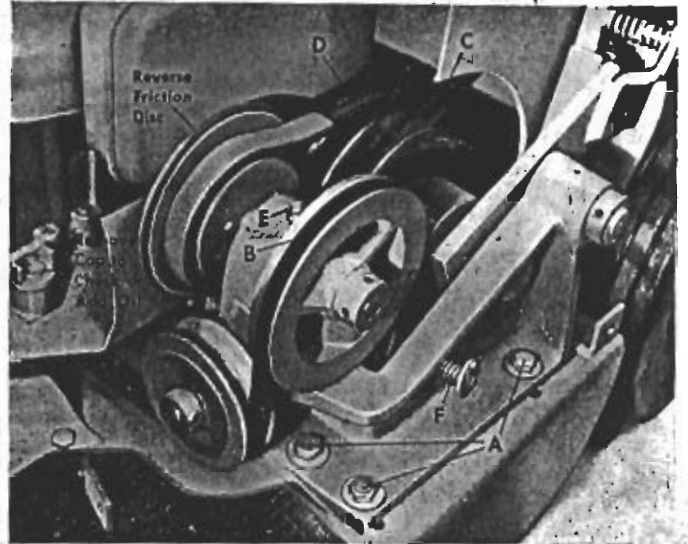

Figure 3
2. Fill Oil Sump with oil. Remove the oil filler plug located on the operator's left at the base of the engine. (See Fig. 3). Mower should be level. Pour oil in the opening until it rises to the top of the filler opening. Replace the oil filler plug. Screw it down tight.
TO REPLACE REVERSE FRICTION DISC shown in Fig. 3, remove left rear fender. Remove three cap screws which attach reverse friction disc to hub. Remove worn disc. Bolt new disc in place and replace fender.
**Belts.** Ref. Fig. No. 3. Basic adjustments for belt tension for all belts are provided for with spring tension. Drive belt ("C" Fig. 3) and speed selector belt ("D" Fig. 3) require no manual adjustments. Should engine to speed selector round belt ("B" Fig. 3) become loose and slap on pulley, slots are provided in the frame for adjusting it. To make such adjustments, remove left rear fender by removing four screws, loosen three cap screws ("A" Fig. 3) slide selector assembly away from engine from 1/8" to 1/4" to give from 10 to 12 lbs. tension on spring ("F" Fig. 3). Tighten cap screws "A", replace fender.
3. Place variable speed engaging lever in far reverse position to remove speed selector belt ("D" Fig. 3).
4. Move variable engaging lever to far forward position to remove drive belt ("C" Fig. 3).
6. Remove three cap screws ("A" Fig. 3).
7. Remove engine to speed selector round belt ("B" Fig. 3) from selector assembly.